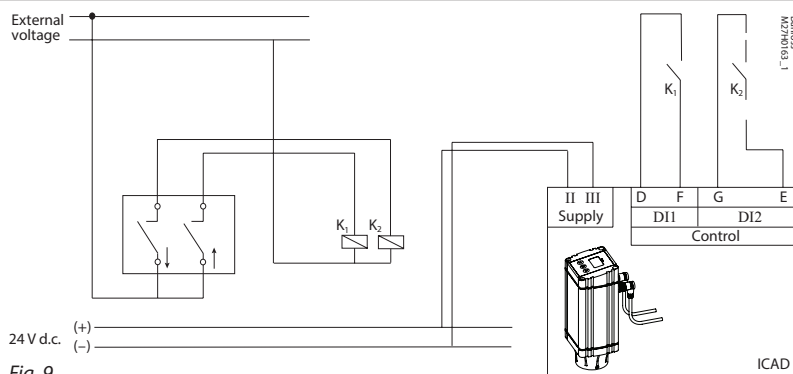

Fig. 9
*) If Neutral zone / 3 point control is selected (parameter i02 = 3) then E and G is used as DI2 - Digital ON/OFF input. Se fig. 9.
Neutral zone / 3 point control (fig. 9)